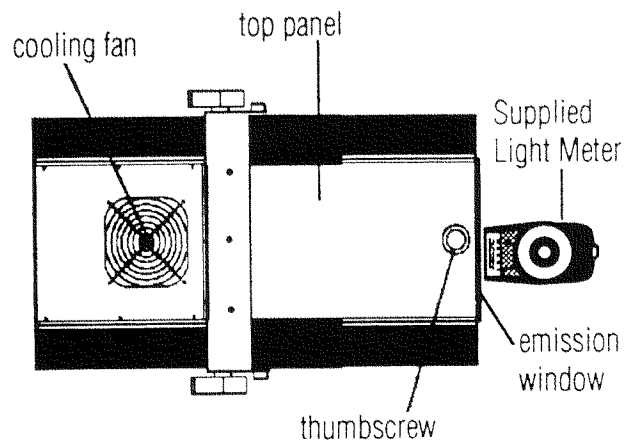

Figure 2.17 Emulator Fixture: Top View; How to Position the Light Meter to check the output of the fixture
- Holding the light meter to the *emission window*, at the front of the fixture (See Fig. 2.17), note the reading shown by the red indication needle on the meter. Slowly slide the meter up and down and left and right on the emission window until you locate the brightest point of light. Carefully fine-adjust the three adjustment t-screws to get the highest possible reading on the meter.